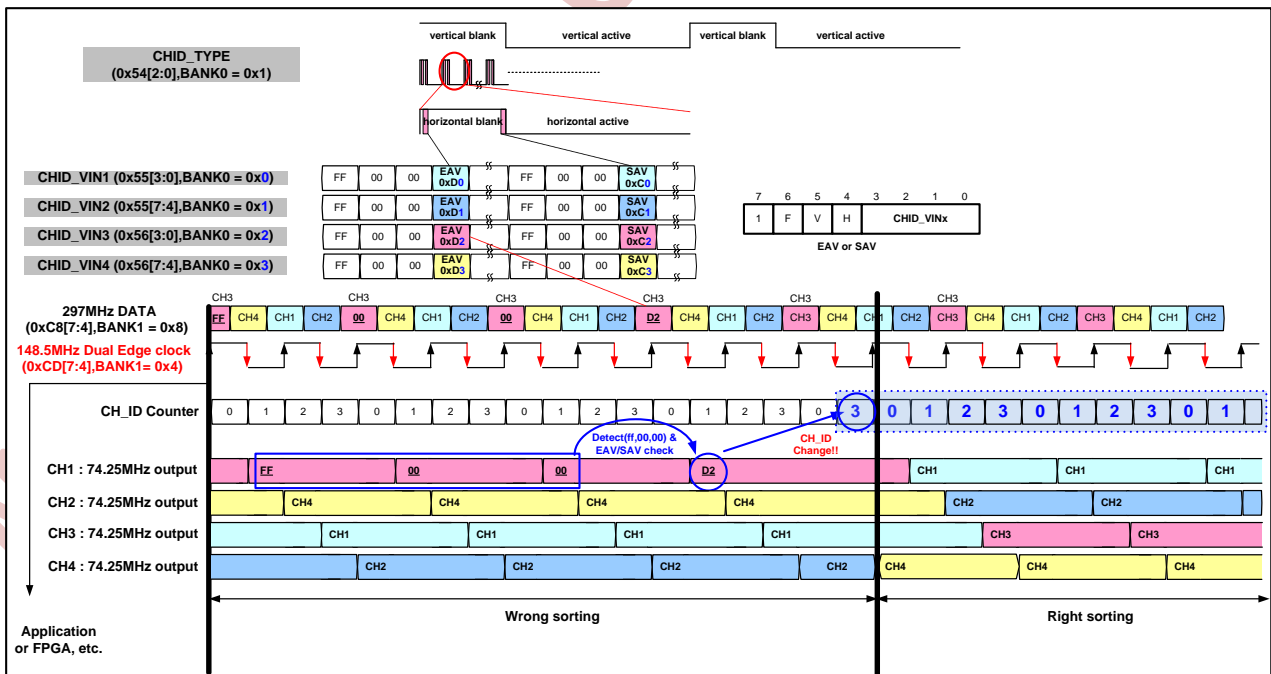

Figure 2.12 NVP6158C Select Channel ID
5. FPGA or equivalent devices which is input 297MHz time multiplexed data output, need to align with same channel data. (74.25MHz 1,2,3,4 channel). Figure2.12. shows how to use Channel ID as a example.
6. CHID\_TYPE(BANK0, 0x54[2:0]=001) mode described in top of Figure2.12.
8. Using 2bit digit, Convert from 297MHz Data to 74.25MHz Data (Wrong sorting part in Figure2.12.) and then Define the 2bit digit ( 0 : Ch1 data, 1 : Ch2 data, 2 : Ch3 data, 3 : Ch4 data).
9. For mapping between separated each channel data and specified counter value, Select channel among separated each channel (1CH selected in Figure2.12.). If selected channel data become Right sorting condition, other 3 channel is sorted automatically.
11. If the EAV/SAV[3:0] is '2', make a counter reset to '3' (Refer to Blue color in Figure2.12.)